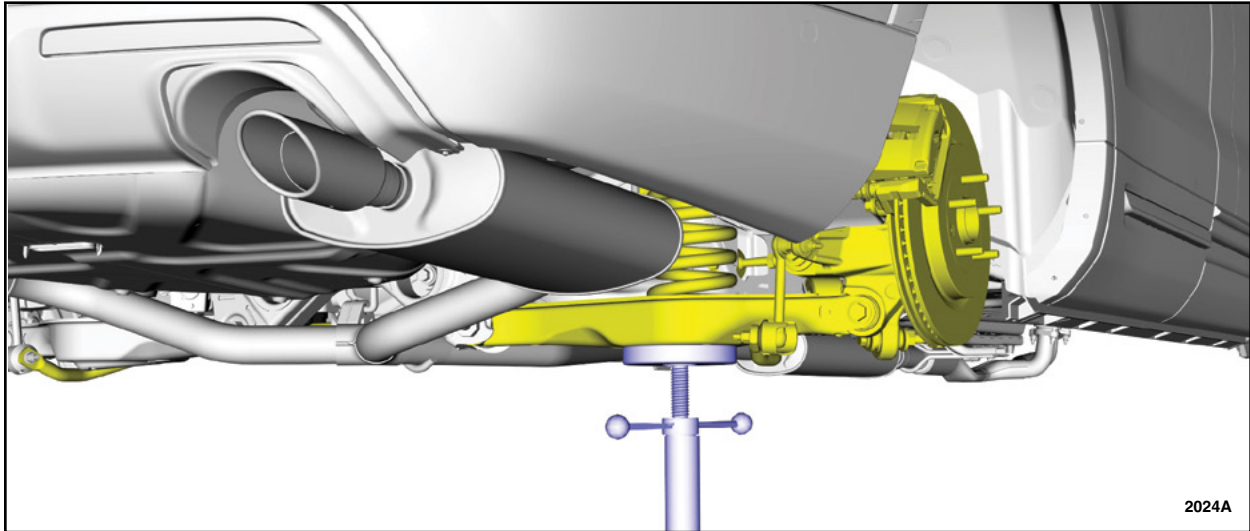

FIGURE 7
9. Remove the jack stand. See Figure 7.